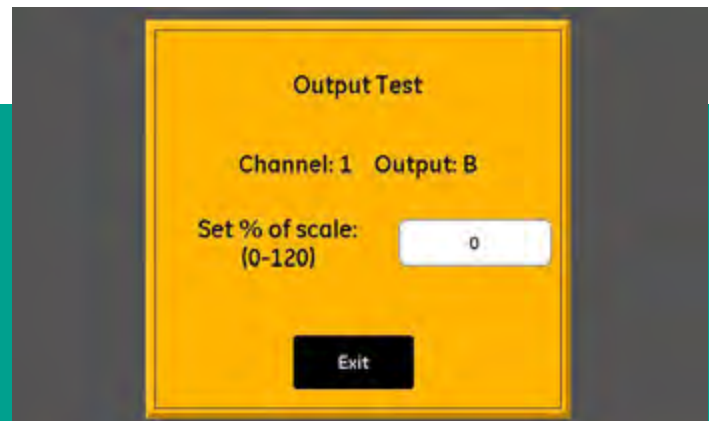

Figure 44: Output test screen
1. Tap the **channel (1-6)** and **output (A or B)** to be tested, and then tap the **test** button to open a screen similar to *figure 44* below.